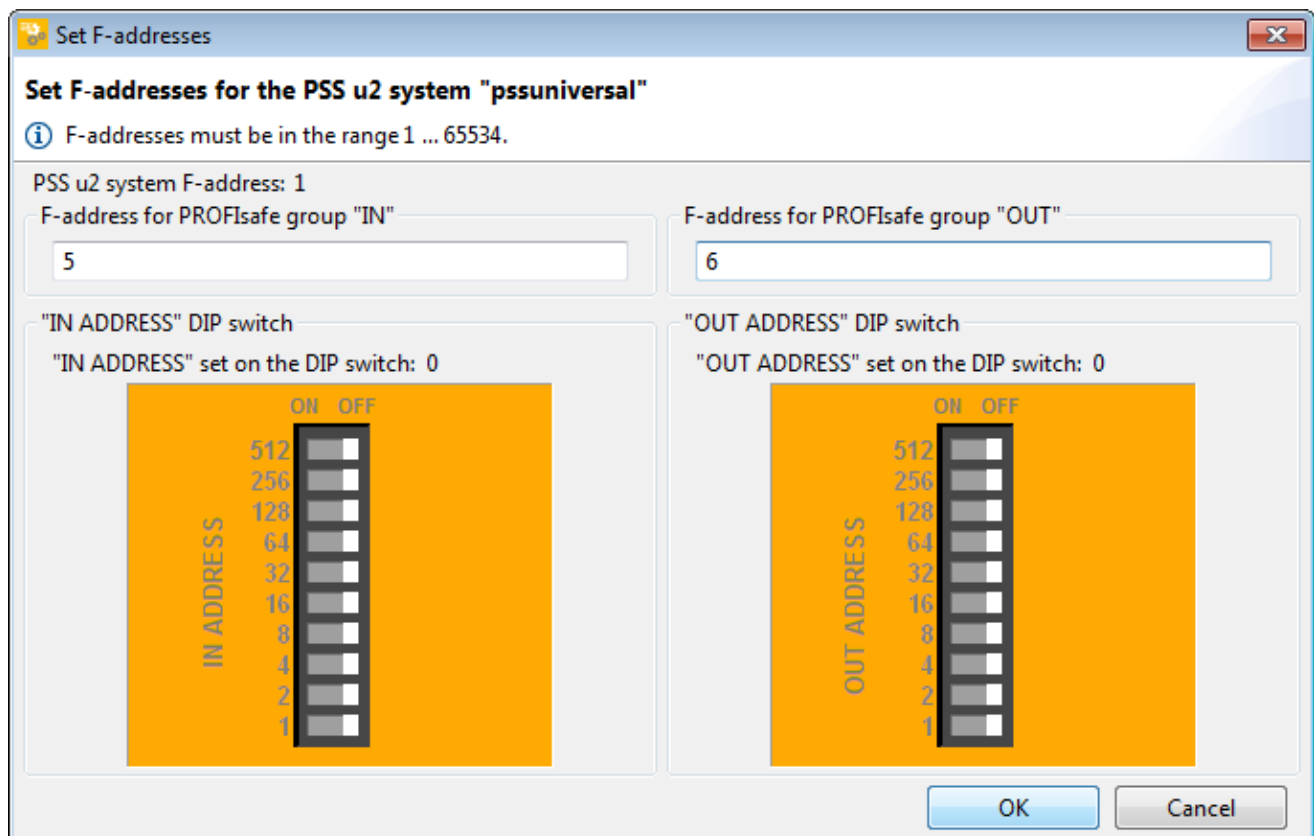

Figure 60: PASconfig – Head module » Function "Set F-addresses" ([A] Part 3, F-addresses)
- their defined hardware parameters take precedence over the software parameters ([Figure 60 \[42\]](#)).